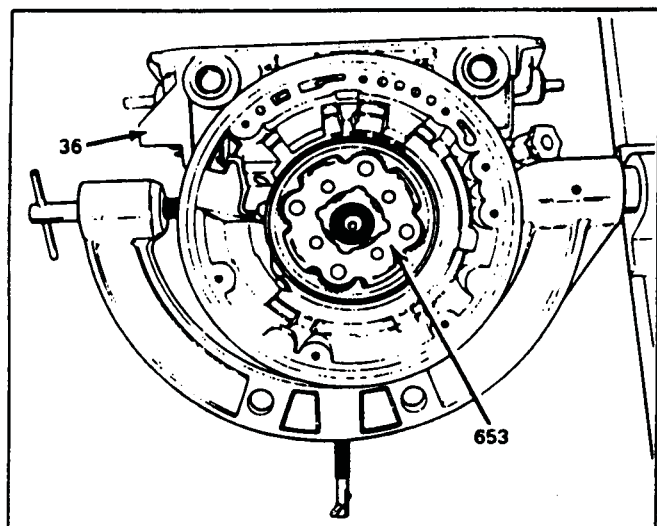

Figure 94
10. Grasp the output shaft from the underside of the case and twist to engage the planetary carrier to the reaction sun gear, as shown in Figure 94.